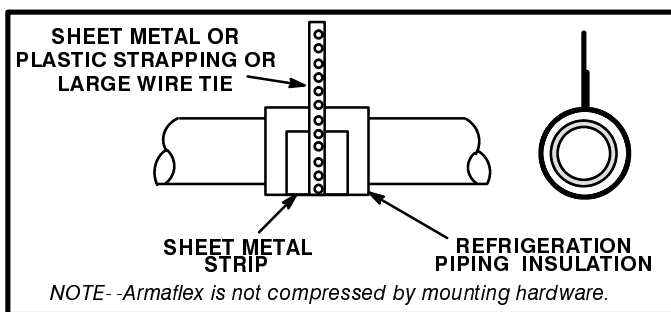
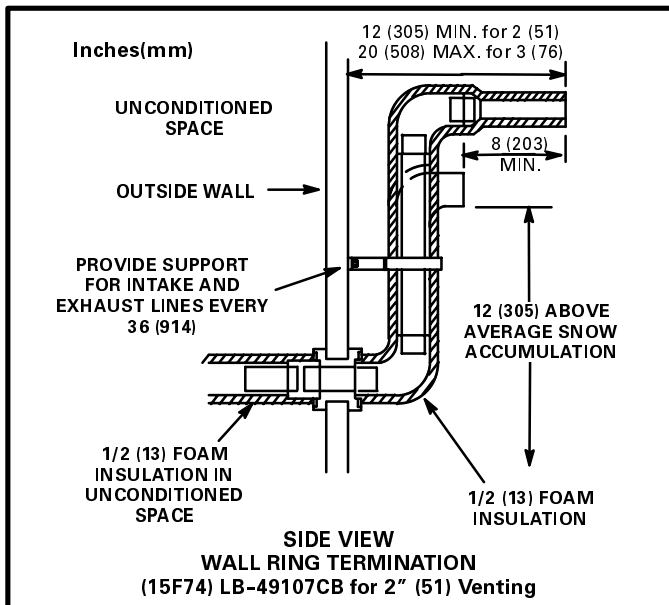
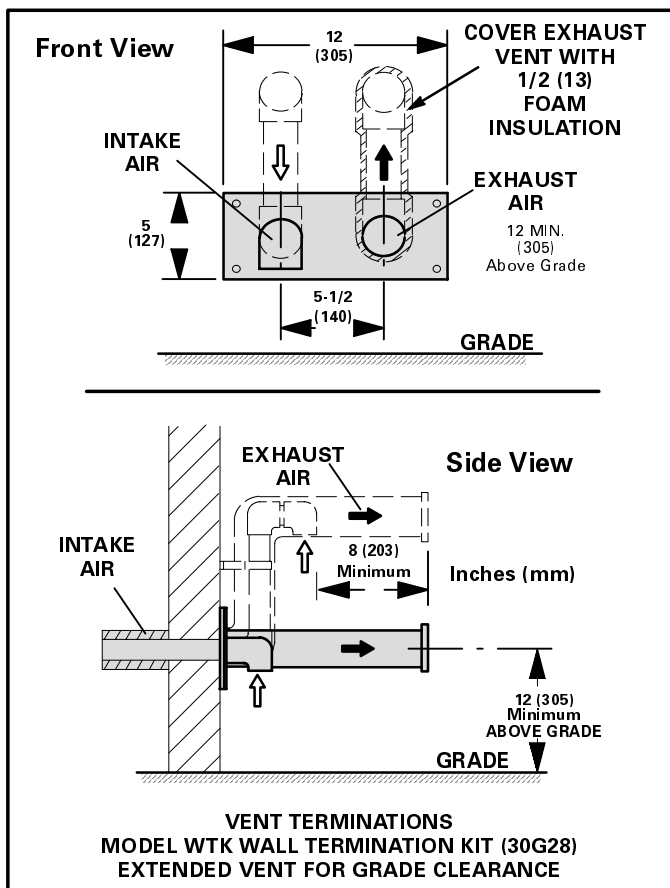
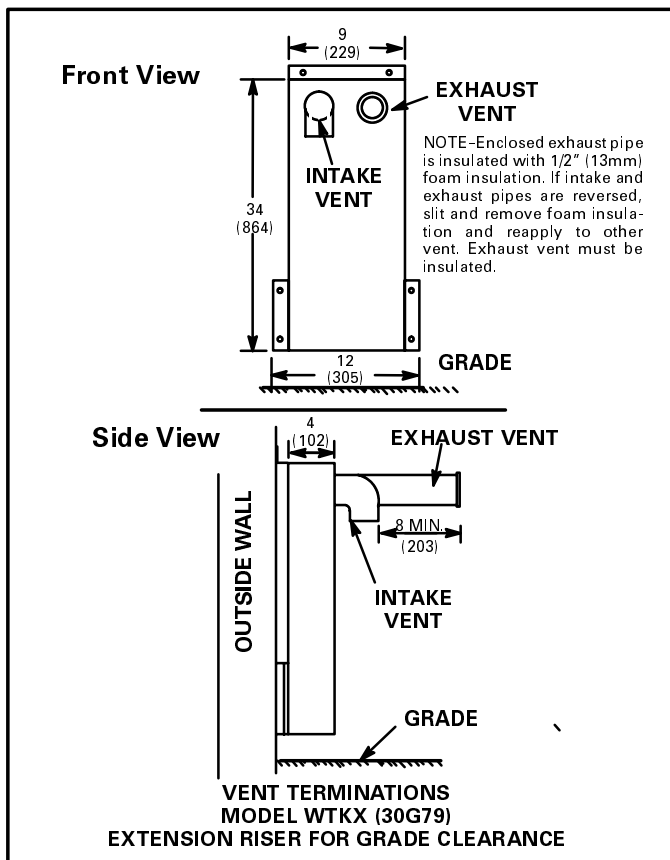

FIGURE 6
FIGURE 12
FIGURE 16
FIGURE 17
- 3 – Suspend piping at a minimum of every 5 ft. (1.52m) using isolation hangers. A suitable hanger can be fabricated by putting a sleeve of Armaflex refrigeration piping insulation around the pipe and suspending it using metal strapping as shown in figure 6. Place a small sheet metal strip between the Armaflex and the metal strapping to prevent crimping. Do not secure piping directly to joist or flooring.
- 8 – If intake and exhaust piping must be run up a side wall to position above snow accumulation or other obstructions. Piping must be supported every 3 ft. (.91m) as shown in figure 6. Refer to figures 12 and 13 for proper piping method. WTK wall termination kit must be extended for use in this application. See figure 16 or use kit WTKX shown in figure 17. When exhaust and intake piping must be run up an outside wall, the exhaust piping is reduced to 1-1/2" (38mm) after the final elbow. The intake piping may be equipped with a 90° elbow turn-down. Using turn-down will add 5 ft. (1.5m) to the equivalent length of the pipe.
- 10– Suspend piping at a minimum of every 5 ft. (1.52m) using isolation hangers. A suitable hanger can be fabricated by putting a sleeve of Armaflex refrigeration piping insulation around the pipe and suspending it using metal or plastic strapping or a large wire tie or other flexible strap to dampen the vibrations as shown in figure 6. Place a small sheet metal strip between the Armaflex and the metal strapping to prevent crimping. Do not secure piping directly to joist or flooring.